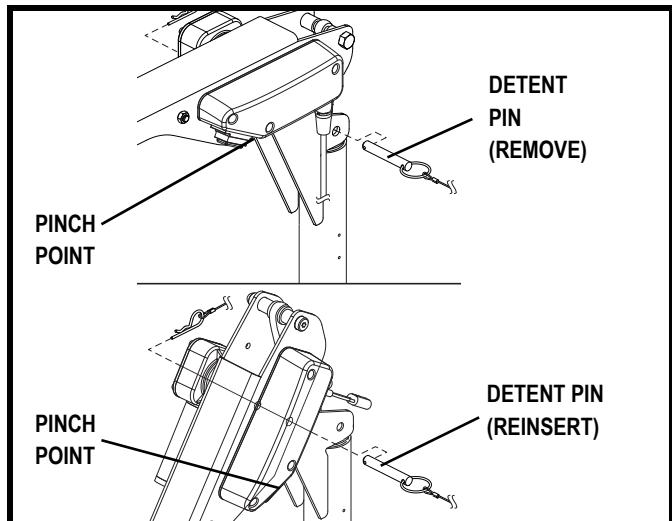

Figure 4. Securing The Boom Arm
1. Remove the detent pin located between the boom arm and upper post. Guide the boom arm downward until it is parallel with the upper post. See figure 4.
2. Reinsert the detent pin into the top of the upper post to secure the boom arm in place. See figure 4.